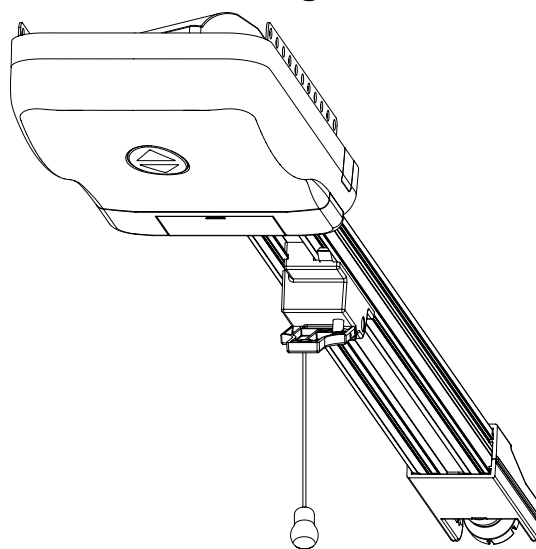

Fig. 3
- 1 Press the CODE BUTTON for 2 seconds the display will show Code Learn (See Fig.3).